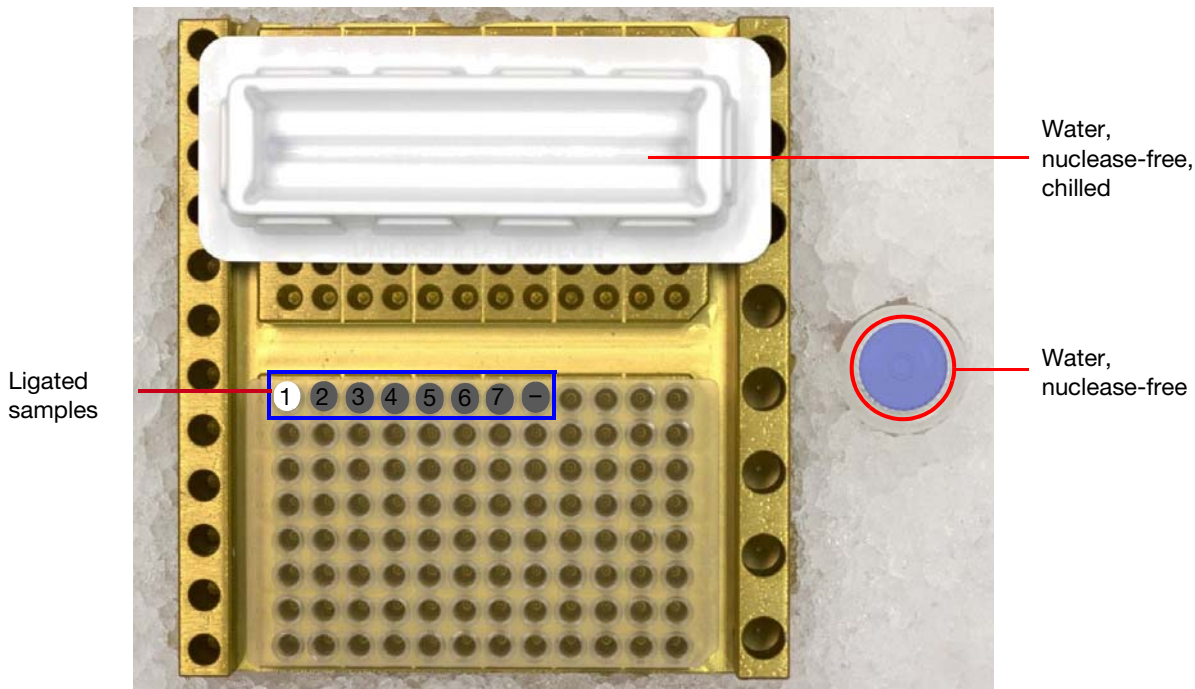

Figure 7 Reagent reservoir on upper half of cooling block on ice
2. Place reagent reservoir on upper half of cooling block on ice (Figure 7).